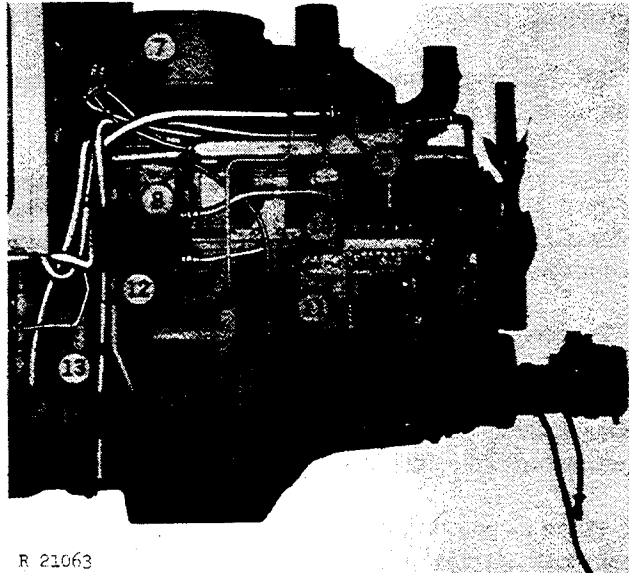

Fig. 16-Right-Hand Side of Engine
7. Disconnect wiring harness from connectors and clamp (Fig. 16).